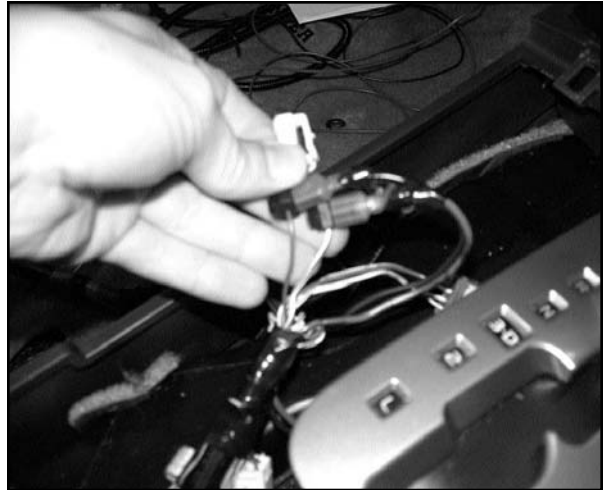

FIGURE 26
2. INSTALL RED T-TAPS TO PIN 2-**BROWN** WIRE AND PIN 1-**WHITE/BLACK** WIRE. **FIGURE 26**
3. ROUTE TERMINAL ENDS OF THE LUMBAR HARNESS TO THE T-TAPS AND CONNECT THE **RED** LEAD TO THE **BROWN** WIRE TAP (+12V) AND THE **BLACK** LEAD TO THE **WHITE/BLACK** LEAD (GRND). **FIGURE 26**